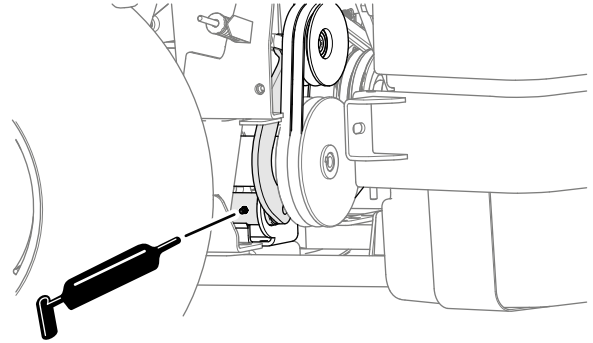

Figure 46
- PTO idler-pulley bracket (Figure 46)